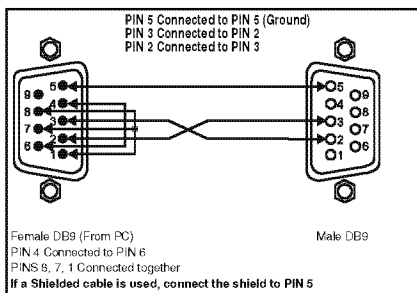

Figure 4: Connecting a PC without using a Null-modem Adapter
- Connect the RS-232 9-pin D-sub port on your PC to the RS-232 9-pin D-sub rear panel port on the Master **VP-4x8** unit, as *Figure 4* illustrates (depending on whether the PC has a 9-pin or 25-pin connector)